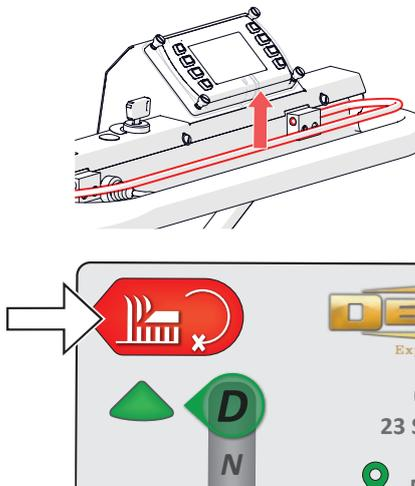

Fig. 12E - Stop the cylinder motor
8. To stop the cylinder motor, release the OPC or press 'Cylinder start / stop'. Releasing the OPC will also stop the drive motor (Fig. 12E).